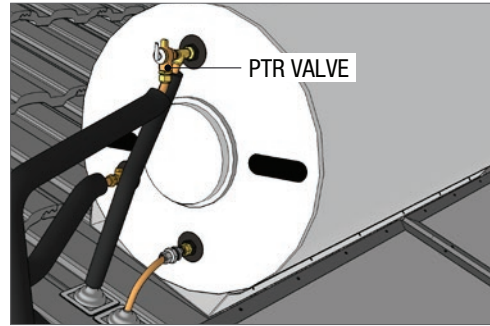

Fig 16
2. OPEN the mains cold water valve to the tank making sure the pressure / temperature relief (PTR) valve (Fig 16) is OPEN